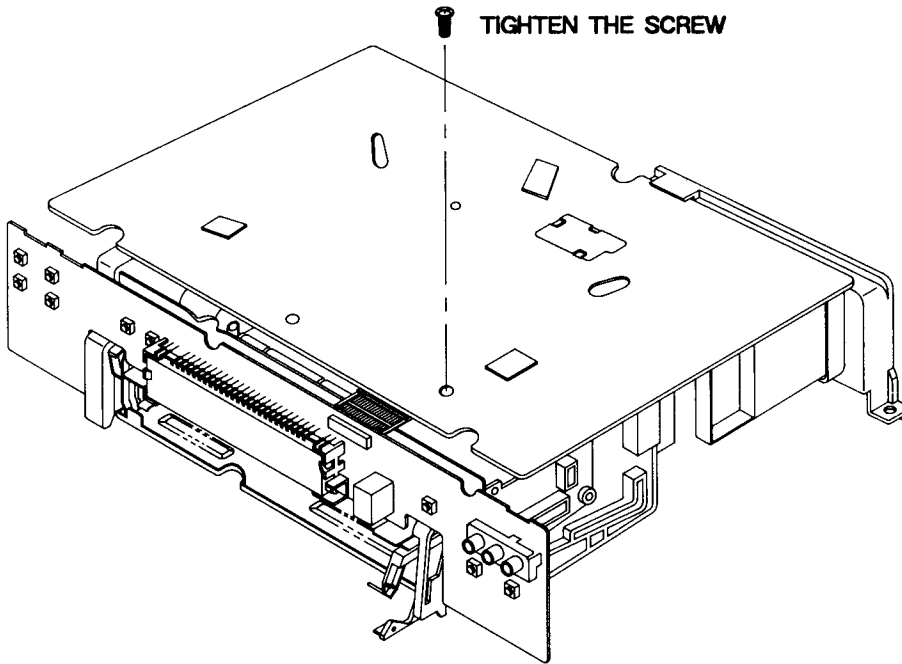

Fig. 8 TroubleShooting Posture
1. Set the main PCB & DECK ass'y as shown in Fig. 8.